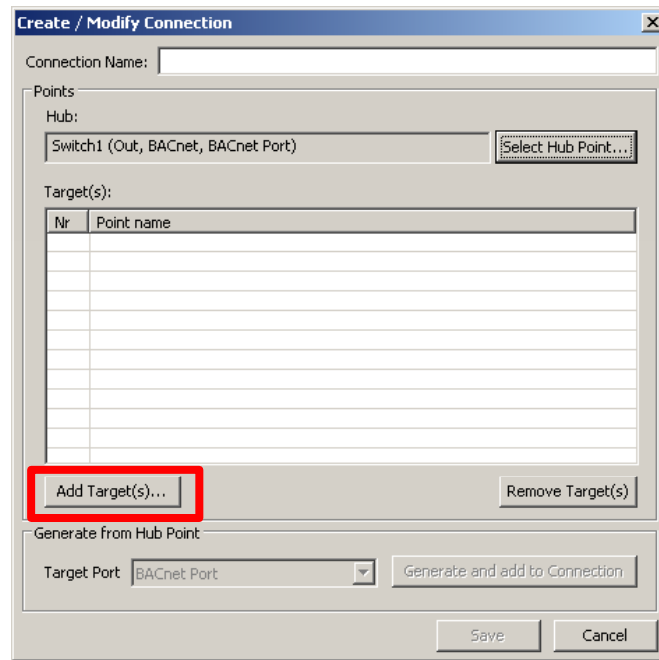

Figure 103: Connection Dialog: Select Target.
3. Then click on **Add Target(s)...** in the connection dialog as shown in Figure 103.